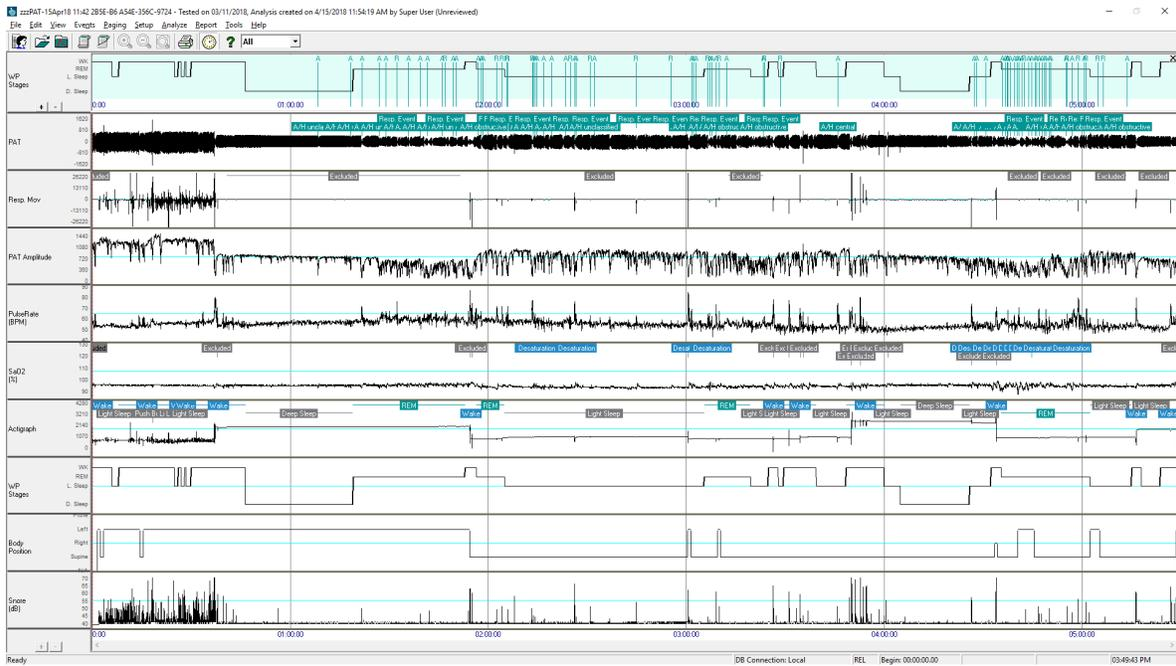

Figure 4 – A zzzPAT Analysis Program typical screen
3. The zzzPAT Analysis Program (see Figure 4) is a proprietary PC software utility used by your physician for initializing the study, retrieving, analyzing and displaying the data. More information is provided by the zzzPAT Software User Manual.